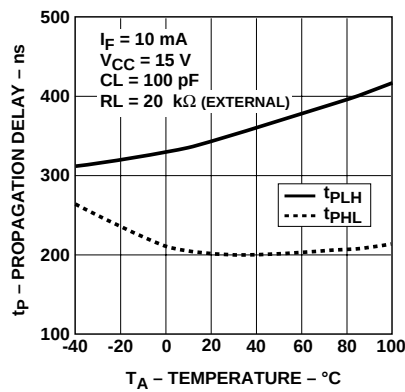

Figure 12. Propagation Delay with External 20 kΩ R_L vs. Temperature.
- Due to tolerance of the internal resistor, and since propagation delay is dependent on the load resistor value, performance can be improved by using an external 20 k Ω 1% load resistor. For more information on how propagation delay varies with load resistance, see Figure 12.